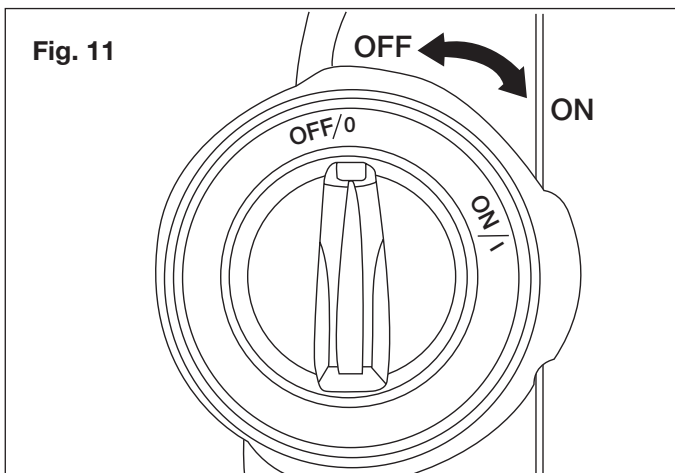

Fig. 11
11. Make sure the motor switch is pushed to the OFF (0) position before plugging the unit into the power outlet (Fig. 11).